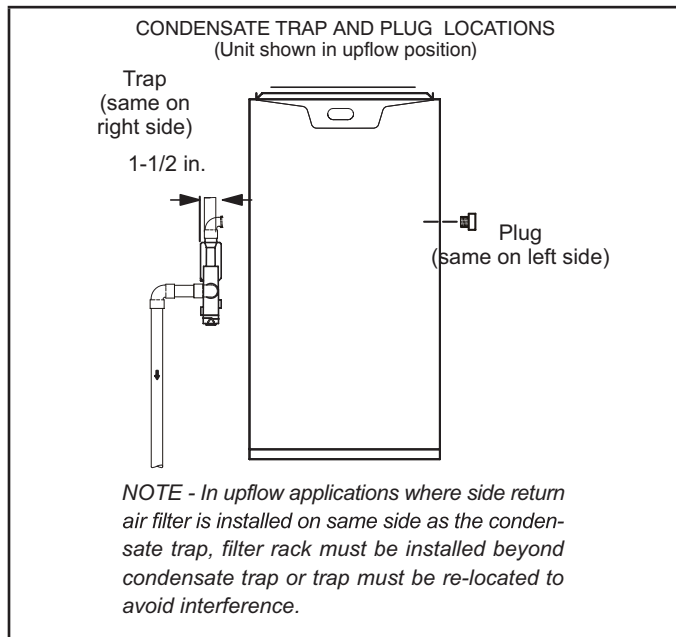
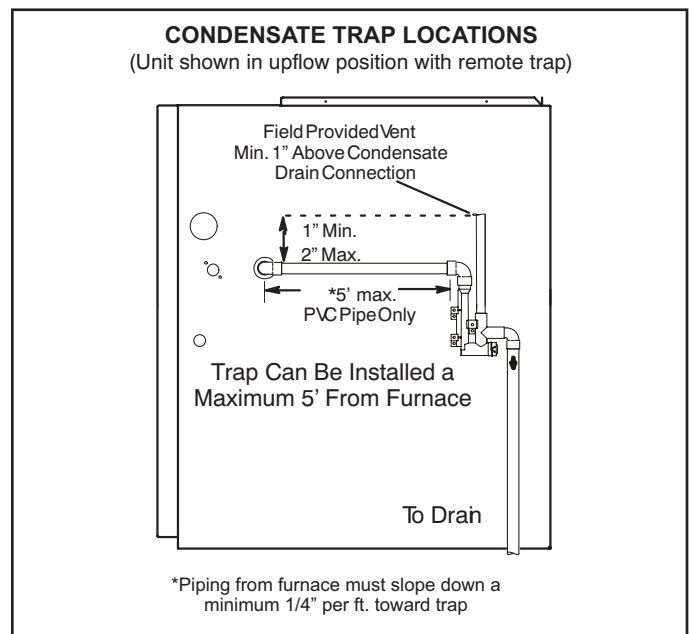
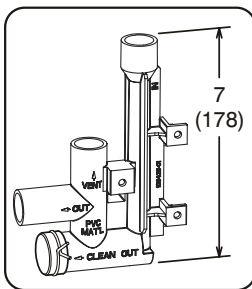

FIGURE 43
FIGURE 45
FIGURE 51
This unit is designed for either right- or left-side exit of condensate piping in upflow applications. In horizontal applications, the condensate trap must extend below the unit. An 8" service clearance is required for the condensate trap. Refer to FIGURE 43 and FIGURE 45 for condensate trap locations. FIGURE 51 (3/4" drain connection) shows a trap assembly using 1/2" PVC or 3/4" PVC.
- 2 - For furnaces with a 1/2" drain connection use a 3/8 allen wrench and remove plug (FIGURE 43) from the cold end header box at the appropriate location on the side of the unit. Install field-provided 1/2 NPT
- 3 - Install the cap over the clean out opening at the base of the trap. Secure with clamp. See FIGURE 51.
- 4 - Install drain trap using appropriate PVC fittings, glue all joints. Glue the provided drain trap as shown in FIGURE 51. Route the condensate line to an open drain. Condensate line must maintain a 1/4" downward slope from the furnace to the drain.